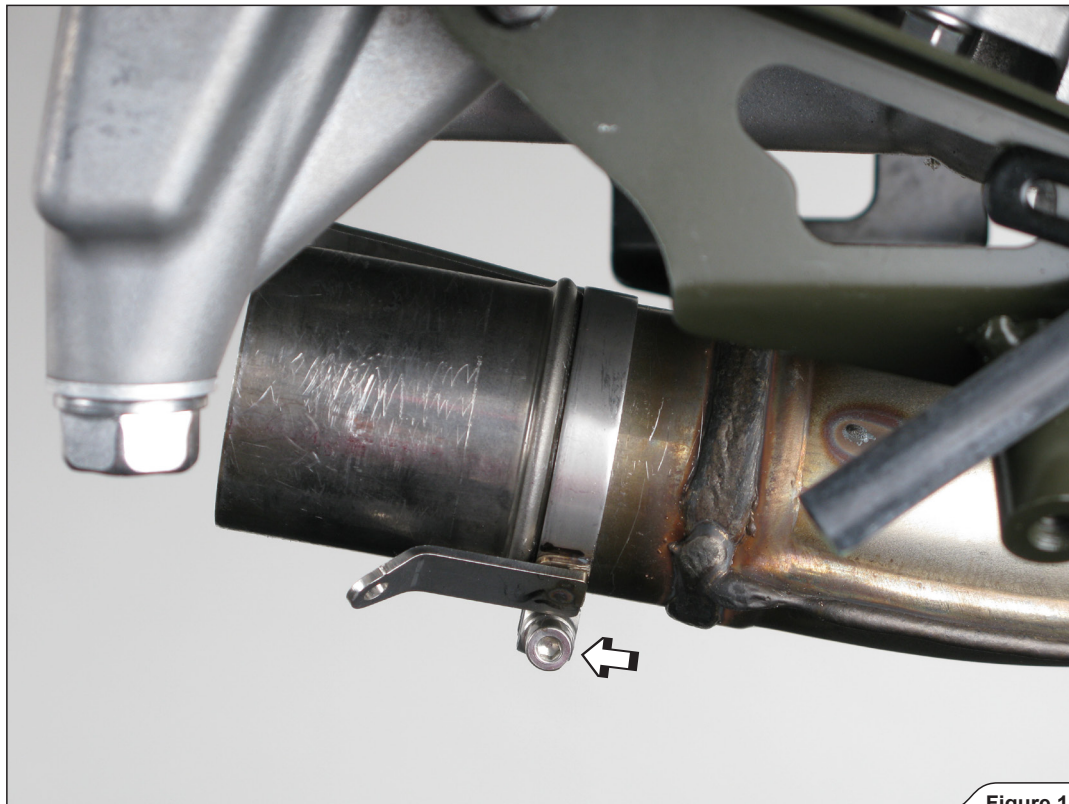

Figure 13
2. Correctly install Akrapovic metal clamp with spring hook and hand tighten the bolt (Figure 13).